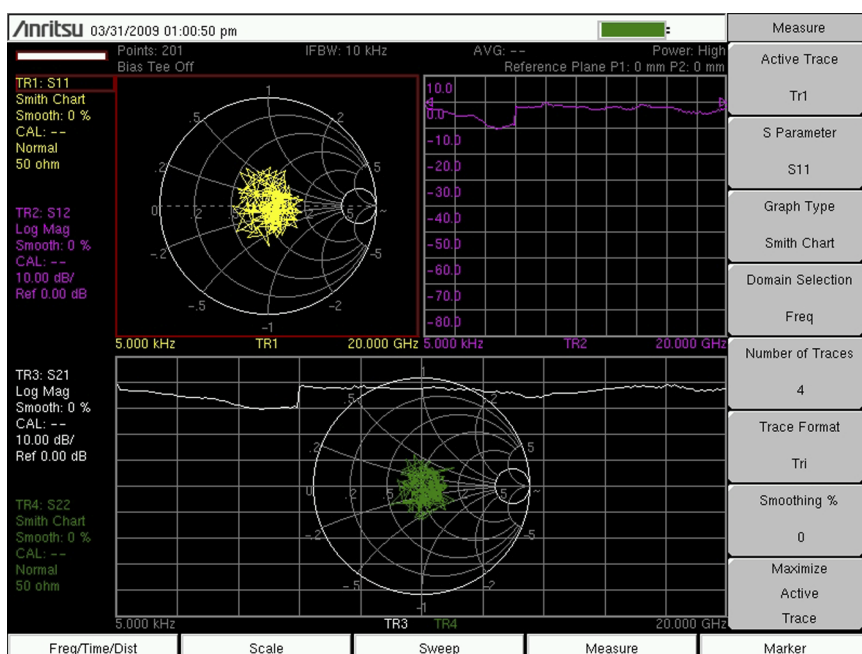

Figure 2-4. Format = Tri, Traces = 4 (MS202xC trace shown)
4. Next change Trace Format to Tri. Note how the 4 traces are assigned on this display. TR3 and TR4 are now overlaid in the bottom half of the display area. Refer to Figure 2-4 on page 2-5.